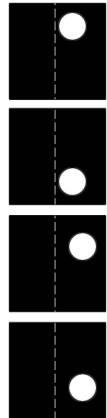

Fig. 2
- a. The square stop block has an offset hole. This hole must always be on the right side of the tool (Fig. 2). The workpiece will move if the offset hole is on the left side. You may need to flip the block to obtain the correct orientation.